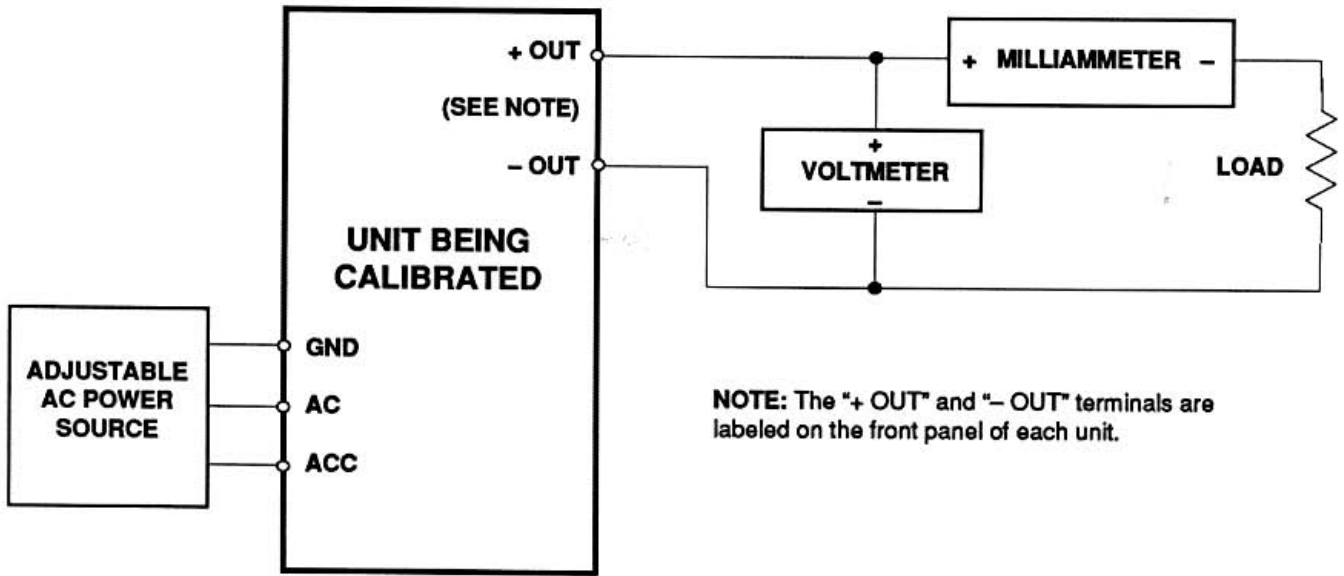

Figure 1. Calibration Setup
Figure 1 depicts the correct calibration setup for all power supplies in the Moore Industries PPS family. Table 3 lists the observable outputs according to load.
1. Connect the unit to an adjustable ac power source, as shown in figure 1.